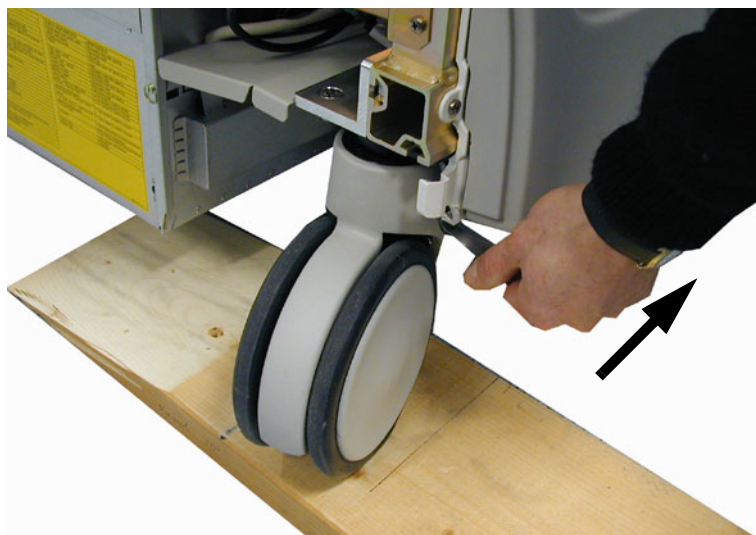

Figure 8-96 Activate both rear brakes
7.) Turn the Rear Caster on the board in the direction as shown in Figure 8-96.
8.) Activate both Rear Brakes as shown in Figure 8-96.